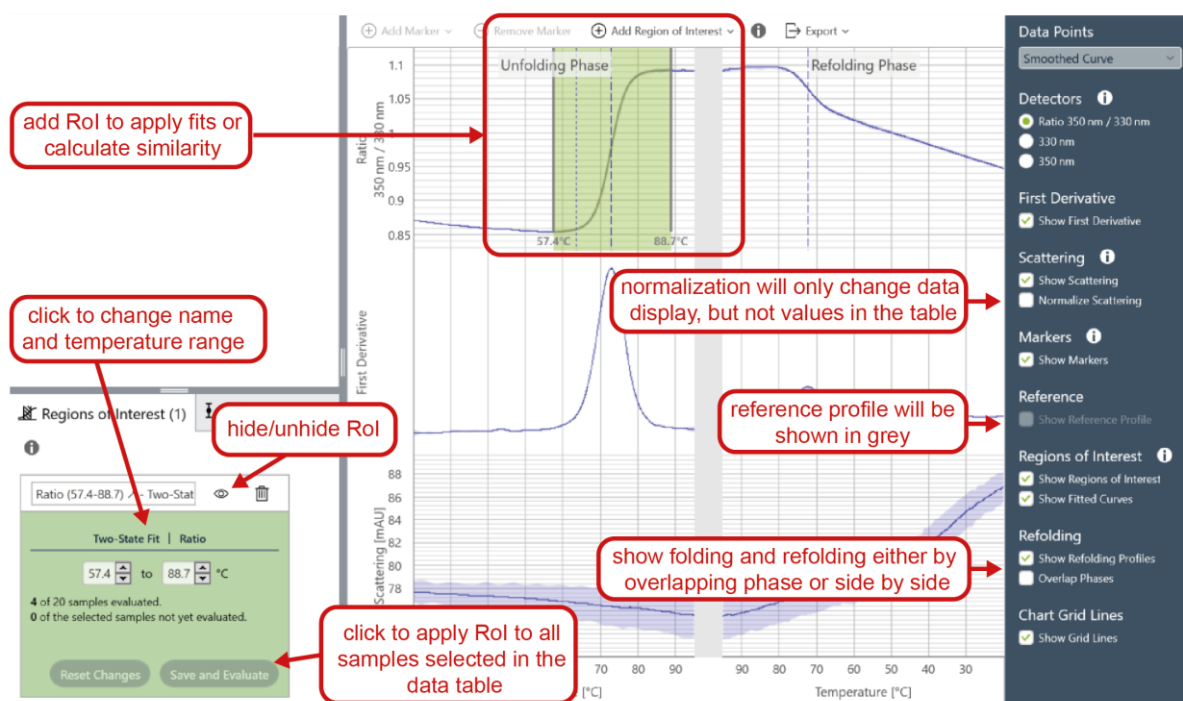

Figure 6: Display options in the charts panel and working with Regions of Interest (Rol).
The calculated inflection points (IP) and unfolding onset temperatures can be displayed in the charts by checking *Show Markers* (see Fig. 6). Shown are also the unfolding profiles and, if selected, the respective first derivative of the curves. In the first derivative view, each local maximum or minimum corresponds to a transition temperature. Inflection points  and unfolding onsets  can be manually added or removed by clicking the *Add/Remove Marker* buttons. Removing markers on the Merge Set will remove the respective value from all replicates within this set. Manual markers can only be added to individual replicates, but not to Merge Sets. Onsets can be added to the Ratio and Scattering plot; Inflection points to the Ratio and single wavelengths (330 nm and 350 nm) plots. The manually annotated markers will be added in italics to the data table and sorted into the respective column based on their temperature value.
Data from PR.ThermControl (Ratio or single wavelengths) can additionally be fitted to a thermodynamic model. To perform a fit, first select which type of fit (Two-state fit or Three-state fit) you want to use via the *Add Region of Interest* menu and then select the respective region by clicking at the start and end point in the plot (see Fig. 6). The calculation of fit parameters will then be carried out automatically. Calculated values will be added as separate columns in the data table. All defined Regions of Interest will appear in a separate panel below the data table next to the Key Parameters (see Fig. 6).